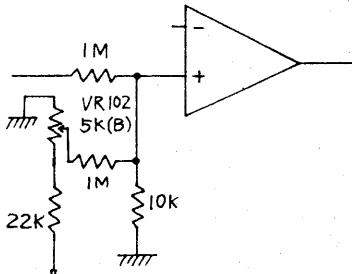

Fig. 3
1) Adjustment of frequency depends on the adjustment of the offset voltage of the operational amplifier (refer to Fig. 3). Turning VR102 counterclockwise (resistance value increases) lowers the frequency, turning VR102 clockwise (resistance value decreases) raises the frequency.